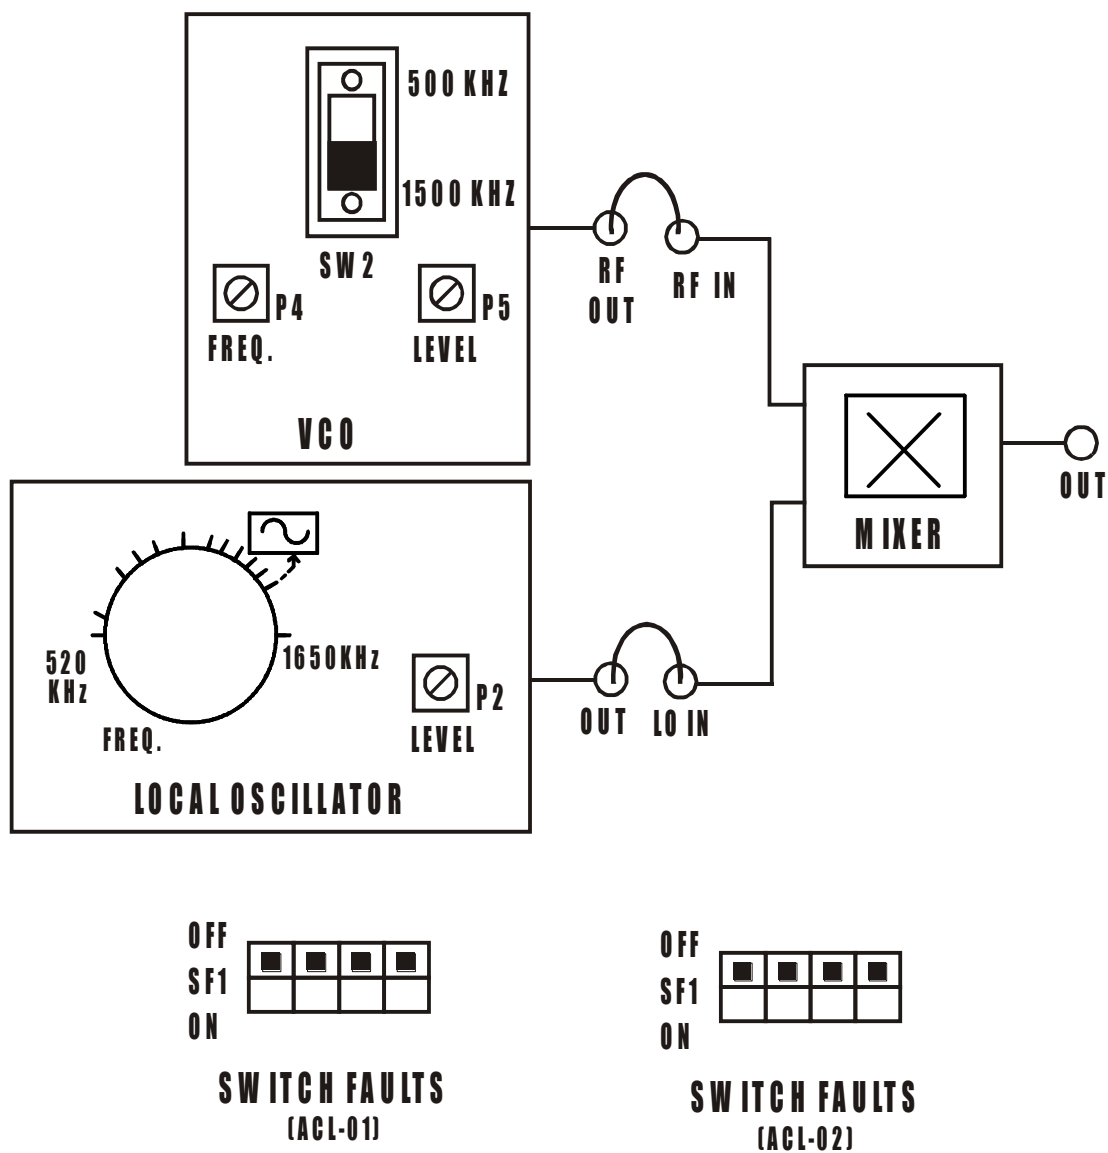

FIG. 8.1 BLOCK DIAGRAM FOR STUDY OF IMAGE FREQUENCY
1. Refer to the FIG. 8.1 & Carry out the following connections; make jumper connections as per diagram.